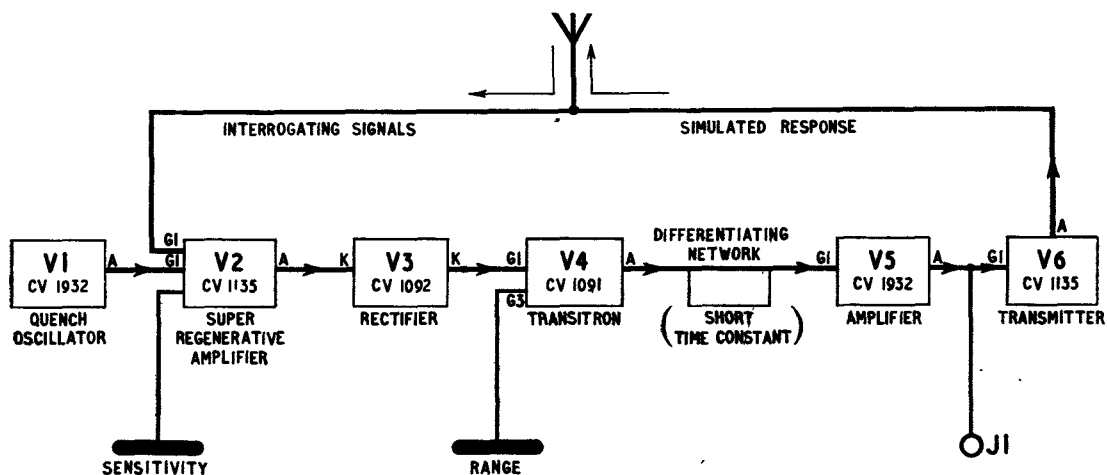

Fig. 13. Test set Type 172A : block diagram
- (1) To set up the A-band IFF equipment.
- (2) To test the frequency response.
- (3) To check the azimuth discrimination of the aerial array.
40. In the block diagram of fig. 13, V1, V2 and V3 form a super-regenerative receiver, the output from V3 being a series of positive pulses at the p.r.f. of the transmitter under test. Each positive pulse triggers the transitron V4 which generates a square pulse of variable width at its anode. The square wave is differentiated and the negative peak of the differentiated waveform, coinciding with the delayed edge of the square wave, is used to trigger a transmitting valve V6 after inversion by V5. Thus a delayed pulse is transmitted to the IFF aerial. The amount of delay can be controlled by the RANGE potentiometer.